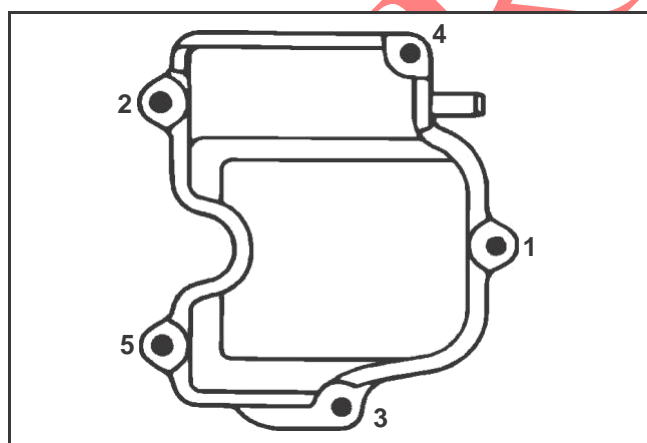

Figure 11-45. Valve Cover Torque Sequence.
4. Torque the screws in the sequence shown in Figure 11-45, as follows: